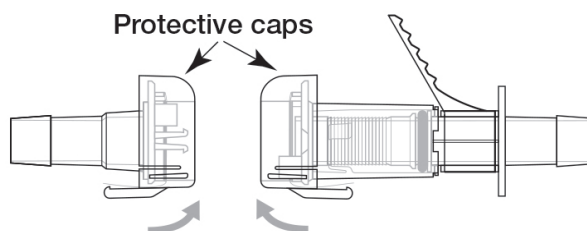

Figure 5.28. Protective caps on connectors.
1. Lift and pull the tab off of the protective caps to remove the caps from the Kleenpak connectors (Figure 5.28).